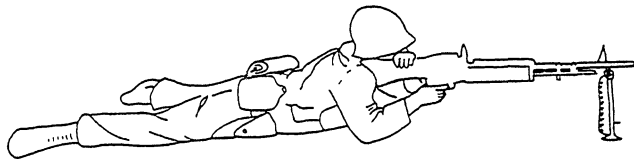

Figure 13-28.—Prone position with biped-mounted machine gun.
**BIPOD-MOUNTED GUN.**— When firing the M60 from the biped (fig. 13-28), you must assume a prone position at the rear of the gun. Your right shoulder should be placed firmly against the butt stock group and under the raised shoulder rest. An imaginary straight line, extending through the barrel and receiver, should pass through your right shoulder and hip (fig. 13-29). Your legs should be spread comfortably apart, with your heels down (when possible). Grasp the handgrip with your right hand and place your index finger on the trigger. Place your left hand palm-down over the rear of the feed cover and apply downward pressure. Rest your cheek against your hand and the feed cover. While aiming and firing, exert firm pressure to the rear with both hands.